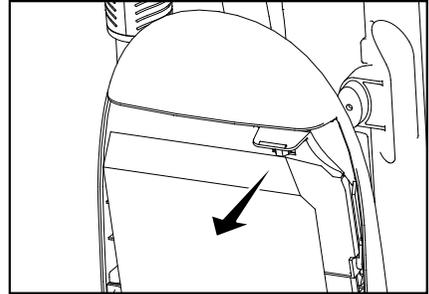
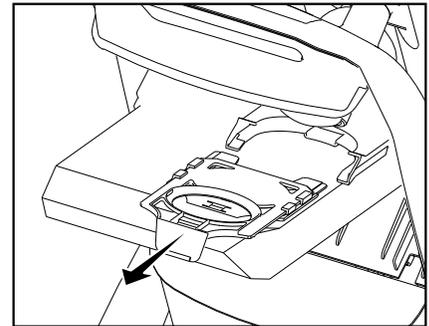

Fig. 1
Fig. 2
- Remove the used vacuum bag by pulling the blue bag collar tab away from the vacuum (Fig. 1). Slide the used bag out of the holder which automatically seals the bag (Fig. 2). Discard the used bag.